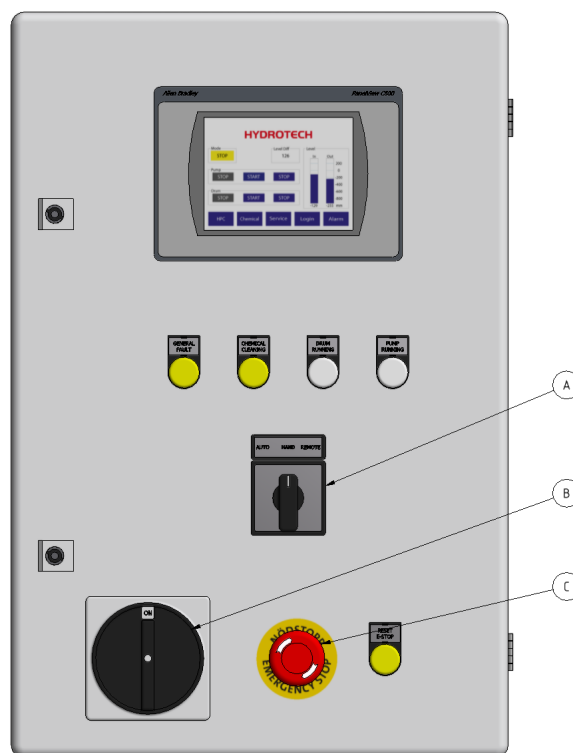

Figure 2.3 Elskåp
- ▶ Before carrying out maintenance work, the main power switch (see Figure 2.3) must be turned to the OFF (0) position and locked with a padlock.
The filter is equipped with an emergency stop and a main switch (see the markings in Figure 2.3).